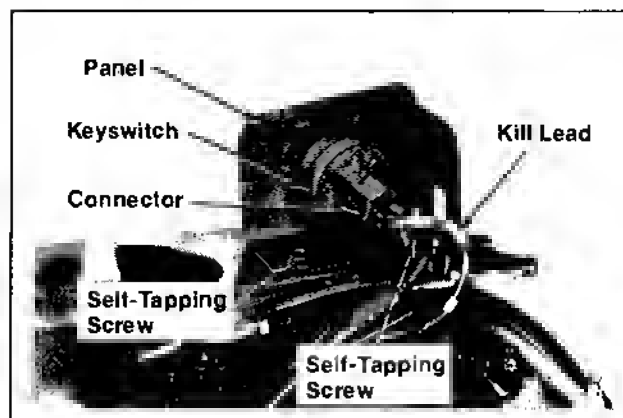

Figure 11-44. Installing Key Switch.
2. Install the panel with key switch and self-tapping screws. Install the kill lead to connector. Install the connector to back of key switch. Refer to Figure 11-44.